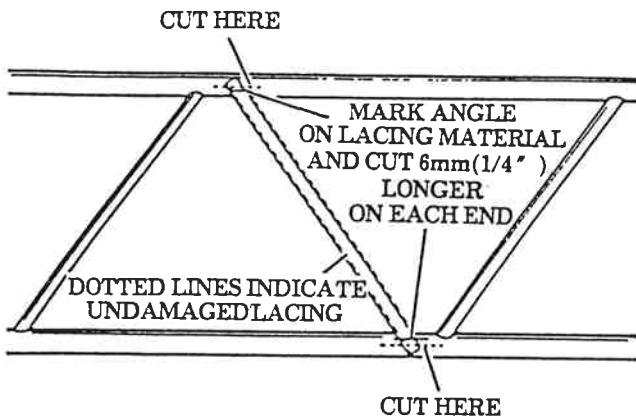

Fig. 2-10 Cutting Replacement Lacing
4. When using bulk replacement lacings, cut the lacing to the proper length which will be 12mm (1/2 inch) longer than is actually required so as to leave sufficient material for contour fitting (see Fig.2-10 on page 2-8).
- B. Cut at the points and at the angle shown in Fig.2-10.